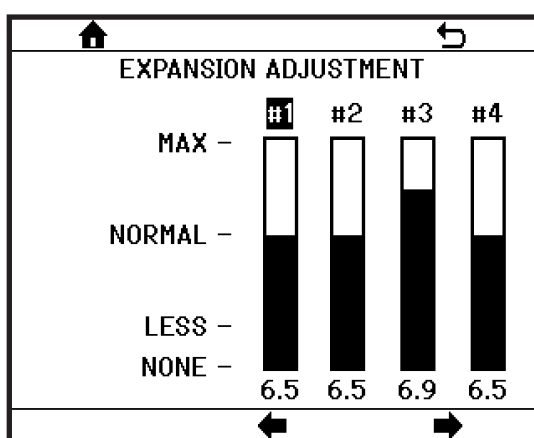

Figure 7.20
- EXPANSION ADJUSTMENT: Used to adjust the amount of gas in a drink (Figure 7.20). The range of values is limited based on the configured gas and drink type.
**EXPANSION ADJUSTMENT (Figure 7.20)** - This menu allows the user to set how much gas is injected into the drink. The adjustment ranges from “MAX” (high levels of gas, high expansion) to “LESS” (lower levels of gas, low expansion). Select the barrel number and adjust the level up or down.